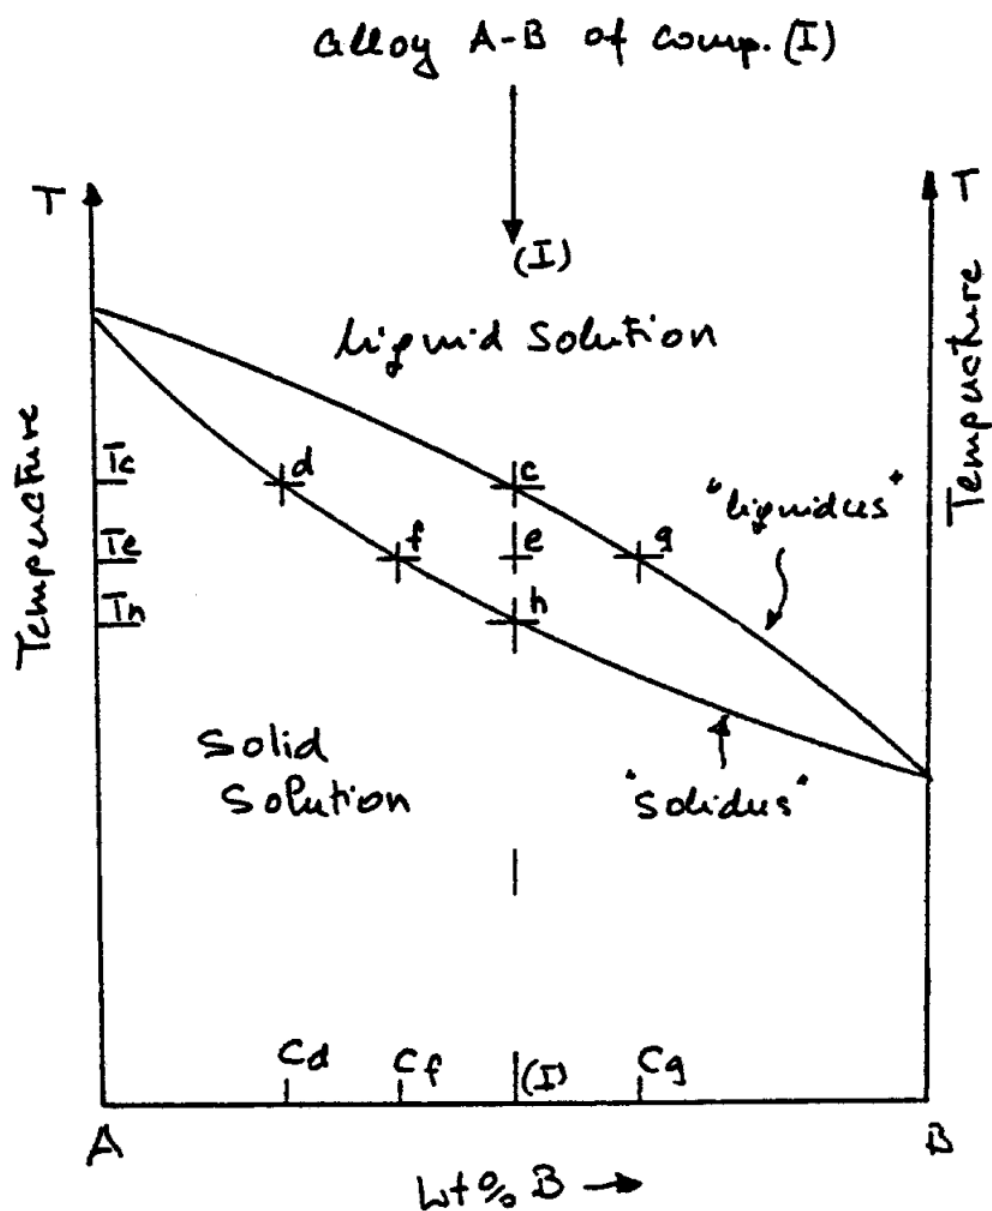

Fig. 7
**Rule 1 - Phase composition:** To determine the composition of phases which are stable at a given temperature we draw a horizontal line at the given temperature. The projections (upon the abscissa) of the intersections of the isothermal line with the liquidus and the solidus give the compositions of the liquid and solid, respectively, which coexist in equilibrium at that temperature. For example, draw a horizontal temperature line through temperature  $T_e$  in fig. 7. The  $T_e$  line intersects the solidus at  $f$  and the liquidus at  $g$ , indicating solid composition of  $f\%$  of  $B$  and  $(100 - f)\%$  of  $A$ . The liquid composition at this temperature is  $g\%$  of  $B$  and  $(100 - g)\%$  of  $A$ . This line in a two-phase region is known as a tie line because it connects or "ties" together lines of one-fold saturation - i.e., the solid is saturated with respect to  $B$  and the liquid is saturated with respect to  $A$ .
must balance. As an illustration, consider alloy I in fig. 7. The composition vertical is erected at alloy I with a composition of  $e\%$  of B and  $(100 - e)\%$  of A. This composition vertical intersects the temperature horizontal ( $T_e$ ) at point  $e$ . The length of the line " $f - e - g$ " indicates the total amount of the two phases present. The length of line " $e - g$ " indicates the amount of solid. In other words: